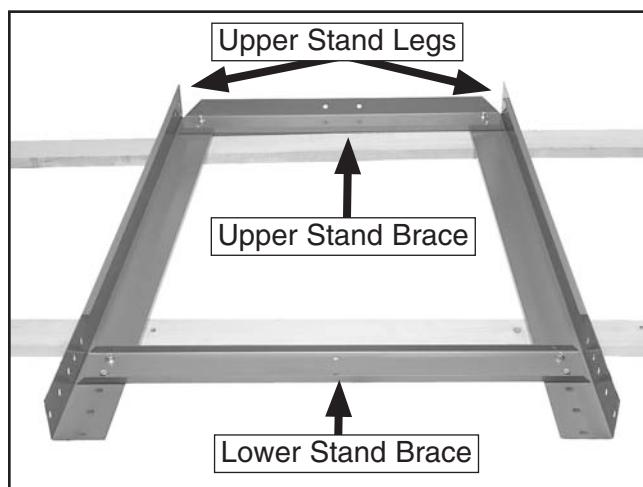

Figure 17. One side of upper stand assembled.
1. Use (8) $\frac{3}{8}$ "-16 x $\frac{3}{4}$ " hex bolts, (16) $\frac{3}{8}$ " flat washers, and (8) $\frac{3}{8}$ "-16 lock nuts to connect 2 upper stand legs, 1 upper stand brace, and 1 lower stand brace —only finger tighten the fasteners (see Figure 17).